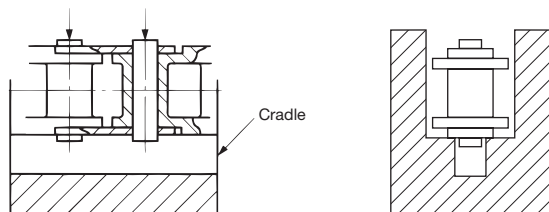

Figure 15: Cross Section Showing Poly Steel Chain Set in Cradle
- Place the outer plate of the chain in a cradle, position a special punch on the head of the pin (see photo in Figure 16 below), and lightly strike with a hammer (Figure 15).